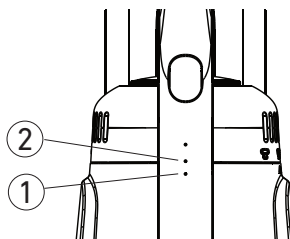

Fig. 2
3. The light indicator shows the status (Fig. 2):
- Charging: Light ① flashes, light ② off.
- Half charged: Light ① on, light ② flashes.
- Fully charged: Light ① & ② on, then off after 10 minutes.
- Low battery: Light ① flashes, light ② off.
NOTE! Light indicator ① (Fig. 2) will flash when the battery is running low and needs to be recharged. If recharging is not commenced, the vacuum cleaner will power off.